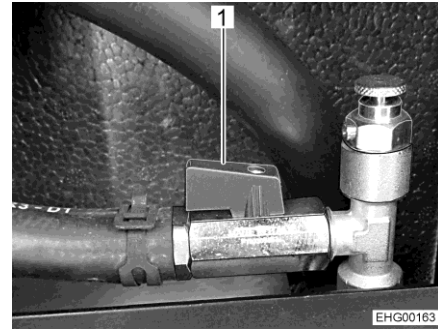

Fig. 182 Spherical valve (opened)
- Set the lever (Fig. 182,1) parallel to the pipe.